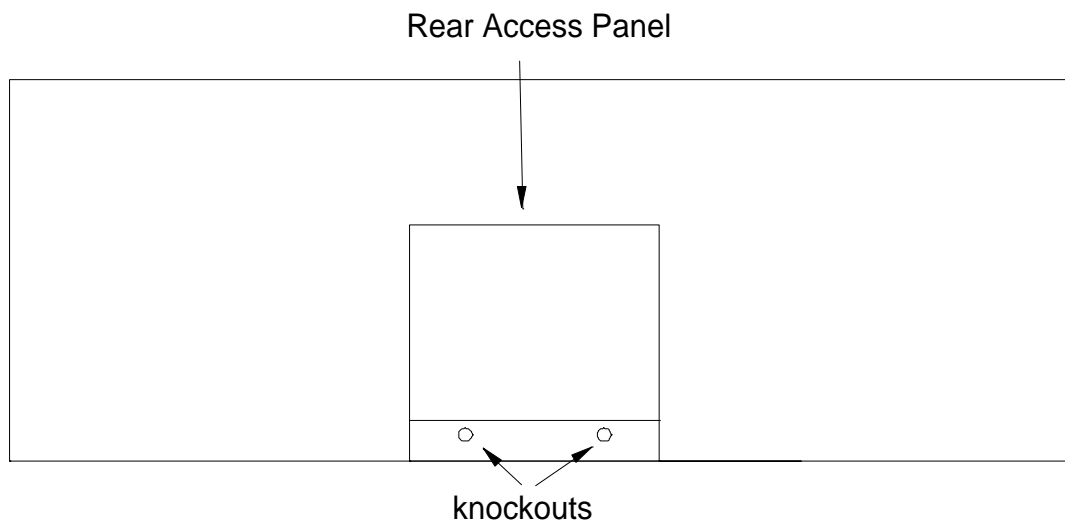

Figure 6 Upper Access Panel
1. Remove the hex head screws which hold the rear upper access panel in place (Figure 6).